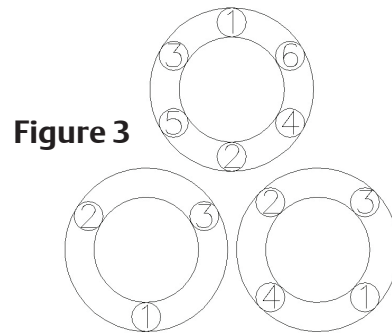

Figure 3
- Tighten the cap screws in the specified order, as shown in Figure 3. Continue tightening until all cap screws have become snug.
For lock collar units, loosen the setscrews. For adapter lock units, loosen the cap screws in the specified order as shown in Figure 3. Once locking mechanism is loosened, slide the bearing off the shaft.